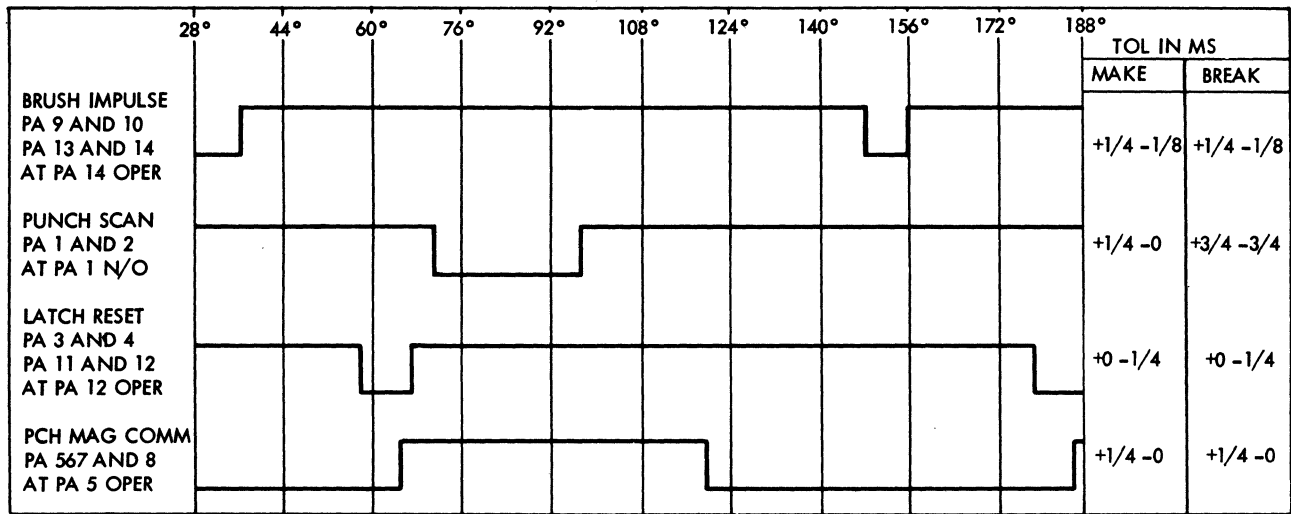

Figure 3-49. PACB Scope Pictures
4. Set time base of scope for 2 ms per division. Each division of the scope will then be 16° of the PACB unit. (Refer to Figure 3-49 when performing this and the following steps.)